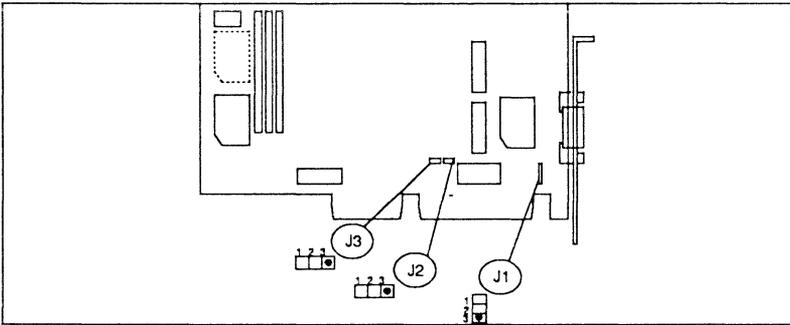

Figure 2-2 Default Jumper Settings
Jumper one (1) controls the two ways in which the monitor can sync. The setting you need (sync on green or external sync) depends entirely on your monitor. Most monitors can sync on green. Compare the jumper settings on your graphics card with the default settings shown in figure 2-2.